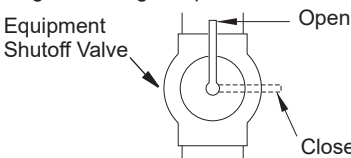

Figure 14 - Equipment Shutoff Valve
Use 1/2" black iron pipe or greater. Installation must include an equipment shutoff valve, union, and plugged 1/8" NPT tap. Locate NPT tap within reach for test gauge hook up. NPT tap must be upstream from heater (see Figure 14).
1. Close equipment shutoff valve (see Figure 14).
1. Open equipment shutoff valve (see Figure 14).